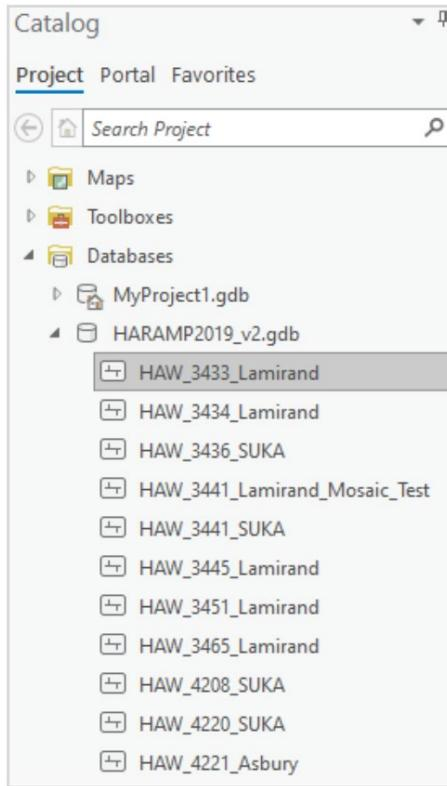

Figure 6.11 Screenshot of the Catalog window in ArcGIS Pro, showing a geodatabase with the different site annotations shown as shapefiles.
2. Navigate to your geodatabase in the Catalog tab on the right side and click the drop down to see all files in the geodatabase (Figure 6.11).